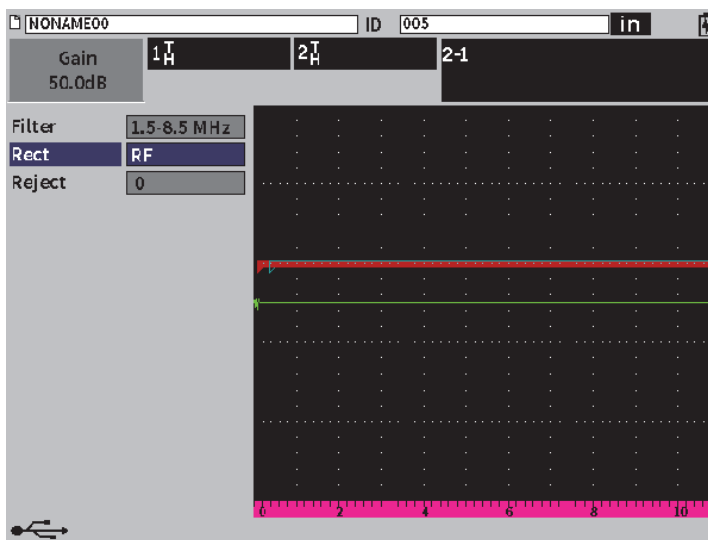

Figure 11-42 Receiver dialog box
2. In the receiver (**RX**) dialog box, set **Rect** to **RF** (see Figure 11-42 on page 223).
3. Press ESC twice to dismiss the setup menu and view the echo-to-echo measurement in the live A-scan (see Figure 11-42 on page 223).